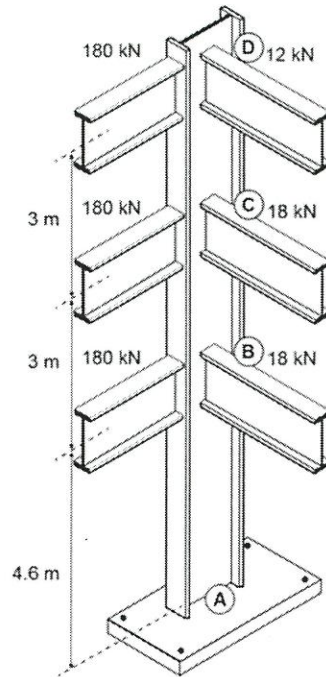

FIGURE Q2
- Q2** **Figure Q2** shows a three-storey corner column for a simple non-sway frame. The size of the column is 203 x 203 x 60 UC with steel grade of S275. The beam support reactions are as shown in the figure.